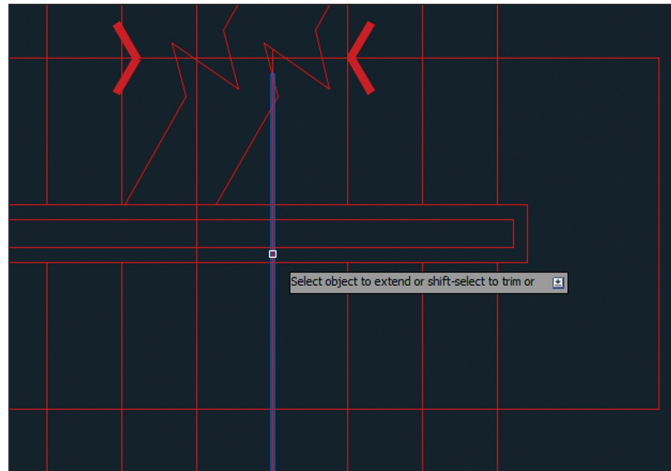

FIGURE 4.23 Trimming with the **EXTEND** command
6. Press the spacebar to repeat the **EXTEND** command, select the upper and lower railings, and press Enter. Hold Shift and click each one of the treads passing through the handrail. Press Esc when you have removed all five line segments (see Figure 4.23).